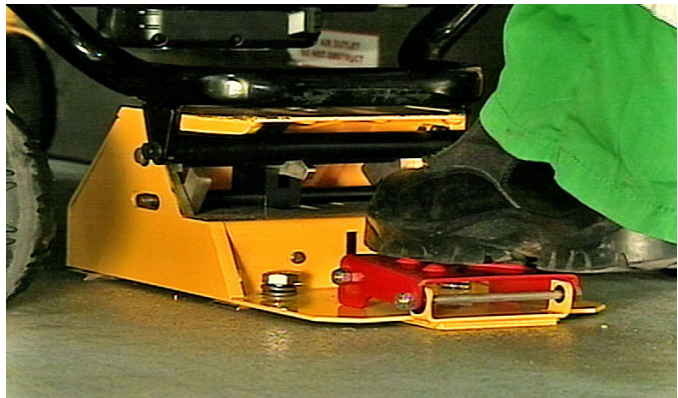

Figure 9 - Remove cot
2. Roll the cot out of the patient compartment (see Figure 9).